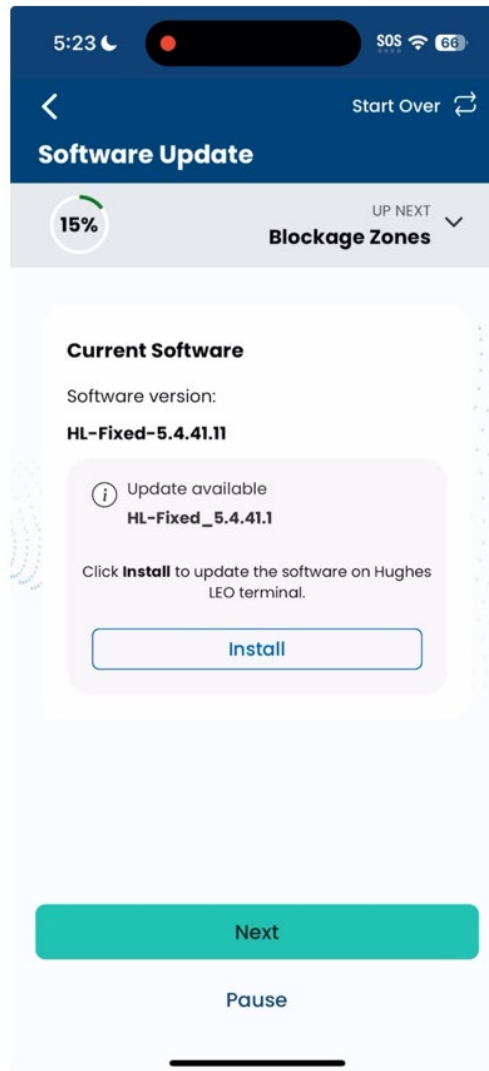

Figure 93: Software upload
1. You can skip this step, which is optional. Otherwise, in this step you can upload a software bundle to the user terminal, as shown in Figure 93. Wait for this process to complete, and then click **Next** when it's finished to move on to the next step.
Note: As mentioned at the beginning of this chapter, the app would have downloaded the latest software bundle for the user terminal from the cloud to the smartphone. The screen depicted in Figure 93 shows the current software used on the user terminal. If the software available on the smartphone is different from what is running on the user terminal, then the name of the software bundle downloaded to the smartphone will be shown on the screen, and you can click **Install** to upload the software bundle to the user terminal.